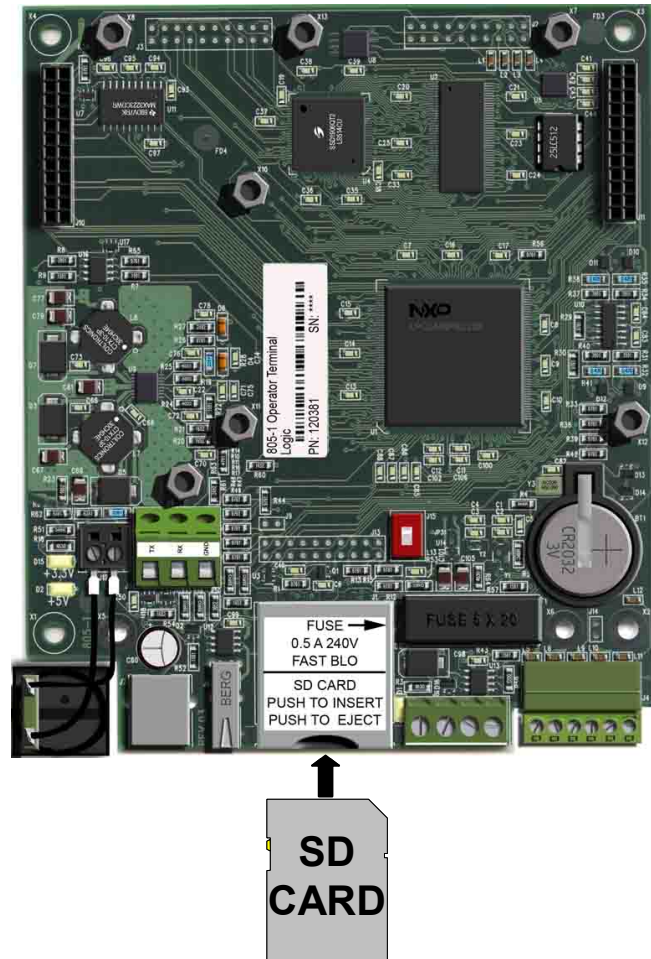

Figure 26: SD Card Slot Location
A “secure digital” (SD) flash card is used to store the backup data. This type of flash card is commonly available from stores such as Radio Shack, Best Buy, Wal-Mart, Target, etc. Since a single backup for an 805 operator terminal will take up less than 64KB of space, even the smallest capacity SD cards will have more than enough space for backups. The location of the SD card slot on the back of the OIT is shown below in Figure 26.